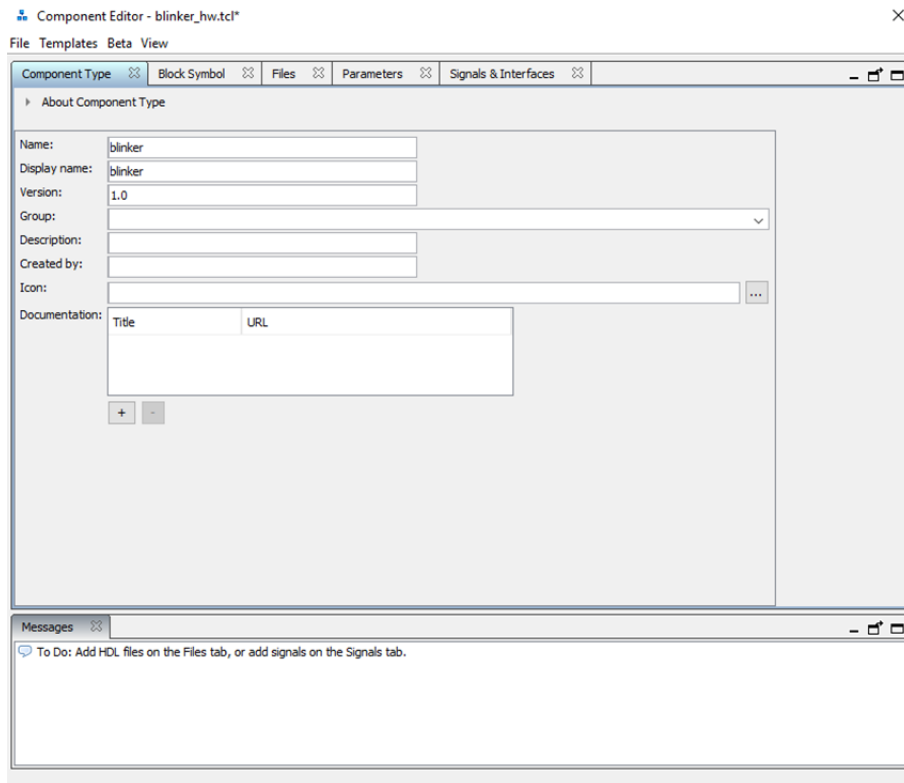

Fig. 89: Edition of the blinker component
3. Under the "Component Type" tab, change "Name" and "Display name" to "*blinker*" (see Fig. 89).